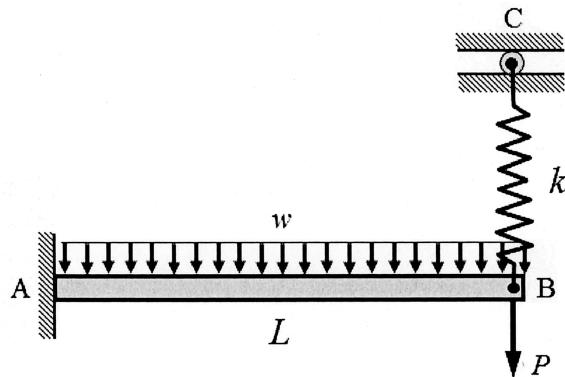

Figure 2
- (b) Figure 2 shows a weightless beam AB of length L and bending rigidity EI with its left end fixed to a rigid wall at A and right end supported by a weightless spring of stiffness k at B. The top end of the spring is roller supported at C. The beam carries a uniformly distributed load of intensity w and a concentrated force P as shown. Consider only bending effects in the beam.